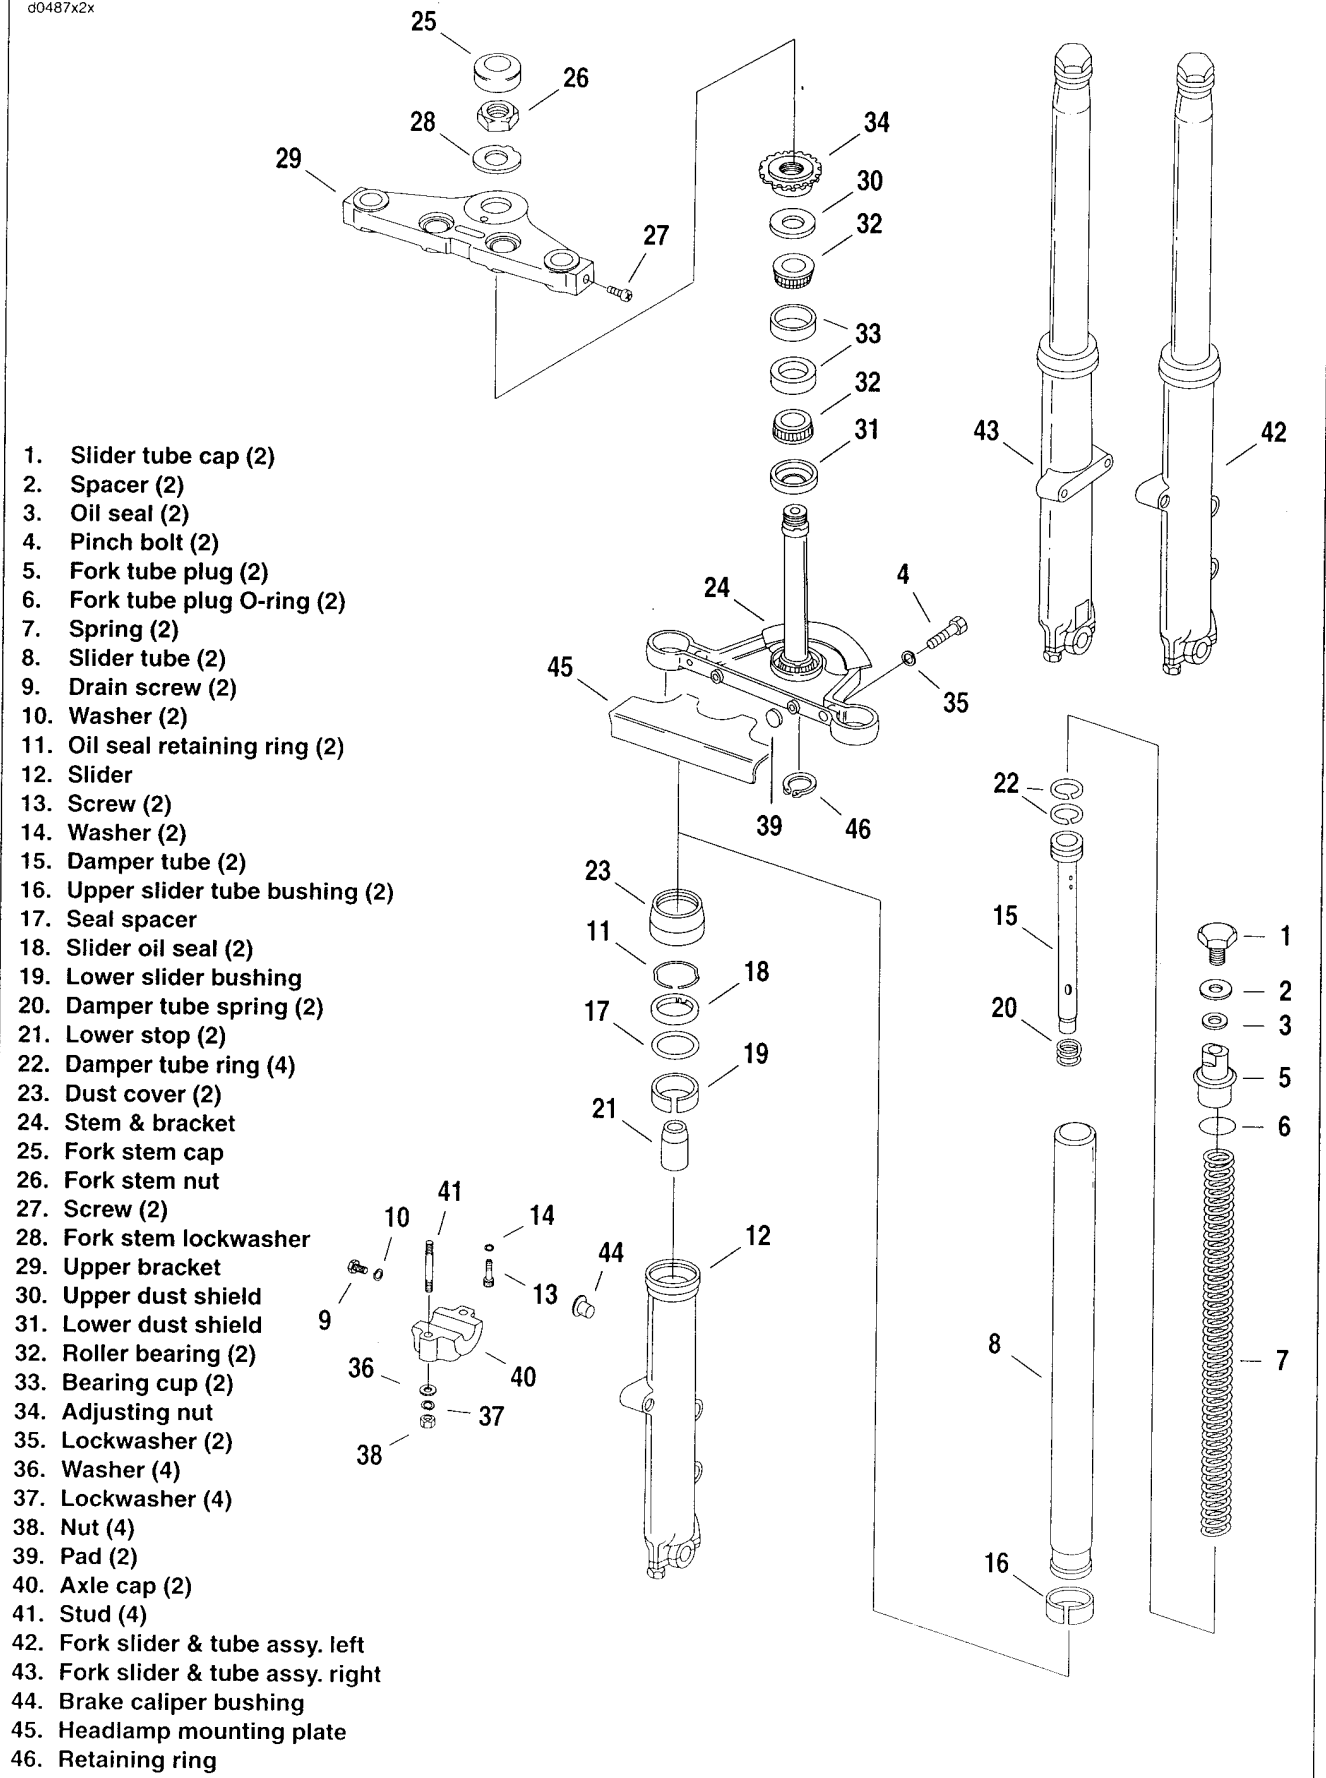

Figure 2-86. Front Fork: FXDWG
3. See Figure 2-86. Remove the slider tube caps (1), spacers (2) and oil seals (3) from the top the fork sides.
4. Loosen the pinch bolts (4) and pull the fork sides from the brackets.
2. See Figure 2-86. Remove slider tube cap (1). Loosen pinch bolts (4) if not already loose and slide tube down to lower bracket. Tighten lower bracket.
3. Remove the fork tube plug (5) and O-ring (6). Pull spring (7) out of slider tube (8). Remove drain screw (9) and washer (10), and drain the fork.
4. Remove dust cover (23). Compress retaining ring (11) and remove the clip from the internal groove at the top of fork slider (12).
2. See Figure 2-86. Inspect damper tube rings (22) on damper tube (15) and replace if worn excessively or damaged.
4. Inspect small hole in lower end of slider tube (8) and be sure it is not obstructed.
5. Be sure O-ring (6) is in good condition, without irregularities, and that it provides proper sealing when in place.
7. Replace bent or damaged fork tube (8).
1. See Figure 2-86. Install damper tube rings (22). Place damper tube spring (20) on damper tube (15). Insert damper tube into fork tube (8).
2. Insert spring (7) into slider tube (8), tapered side toward damper tube, and push bottom of damper tube (15) through the opening at the bottom end of the fork tube. Place lower stop (21) over end of damper tube.
3. Position slider tube (8) and damper tube (15) in slider (12). Hold the assembly in place by exerting pressure on the spring and install socket screw (13) with washer (14).
4. Place upper bushing (16), seal spacer (17) and a new seal (18) (in that order) over fork slider (12). Slide the bushing into its groove with bushing opening oriented to the side. Be sure that the flanged surface of the seal spacer (17) is up and lettered side of the seal is facing upward. Place FORK SEAL BUSHING TOOL (Part No. HD-34634) over fork slider (12). Seat upper bushing, seal spacer, and seal with the installation tool. Install retaining ring (11). Install dust seal (23).
1. See Figure 2-86. Insert both fork side assemblies up through the fork stem and bracket (24) and upper bracket (29).